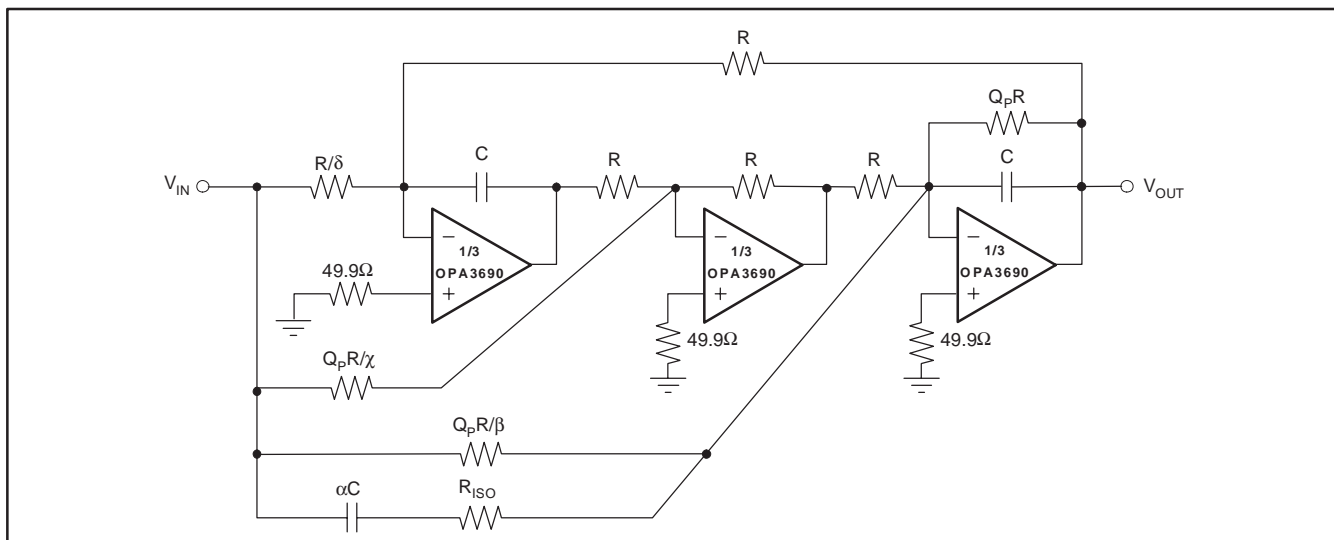
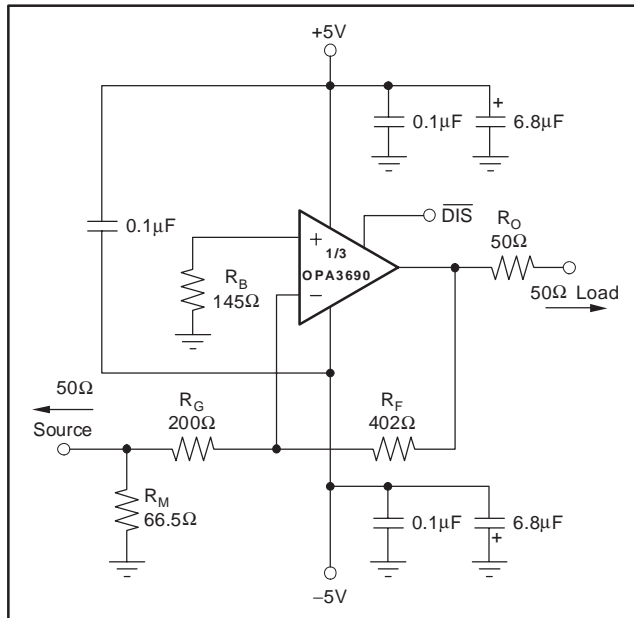

Figure 11. State Variable Filter
Figure 12. Gain of –2 Example Circuit
Figure 11 shows a state variable filter using the OPA3690. This active filter is quite useful for high Q filter responses, and will produce low-pass, high-pass, bandpass, notch, and all-pass functions. The filter response is:
Since the OPA3690 is a general-purpose, wideband, voltage-feedback op amp, all of the familiar op amp application circuits are available to the designer. Inverting operation is one of the more common requirements and offers several performance benefits. Figure 12 shows a typical inverting configuration where the I/O impedances and signal gain from Figure 1 are retained in an inverting circuit configuration.
In the inverting configuration, three key design considerations must be noted. The first is that the gain resistor ( $R_G$ ) becomes part of the signal channel input impedance. If input impedance matching is desired (which is beneficial whenever the signal is coupled through a cable, twisted-pair, long PC board trace, or other transmission line conductor),  $R_G$  may be set equal to the required termination value and  $R_F$  adjusted to give the desired gain. This is the simplest approach and results in optimum bandwidth and noise performance. However, at low inverting gains, the resultant feedback resistor value can present a significant load to the amplifier output. For an inverting gain of  $-2$ , setting  $R_G$  to  $50\Omega$  for input matching eliminates the need for  $R_M$  but requires a  $100\Omega$  feedback resistor. This has the interesting advantage that the noise gain becomes equal to 2 for a  $50\Omega$  source impedance—the same as the noninverting circuits considered in the previous section. The amplifier output, however, will now see the  $100\Omega$  feedback resistor in parallel with the external load. In general, the feedback resistor should be limited to the  $100\Omega$  to  $1.5k\Omega$  range. In this case, it is preferable to increase both the  $R_F$  and  $R_G$  values, see Figure 12, and then achieve the input
The second major consideration, touched on in the previous paragraph, is that the signal source impedance becomes part of the noise gain equation and influences the bandwidth. For the example in Figure 12, the  $R_M$  value combines in parallel with the external  $50\Omega$  source impedance, yielding an effective driving impedance of  $50\Omega \parallel 66.5\Omega = 28.5\Omega$ . This impedance is added in series with  $R_G$  for calculating the noise gain (NG). The resultant NG is 2.76 for Figure 11, as opposed to only 2 if  $R_M$  could be eliminated, as discussed above. The bandwidth will therefore be slightly lower for the gain of  $-2$  circuit of Figure 12 than for the gain of  $+2$  circuit of Figure 1.
The third important consideration in inverting amplifier design is setting the bias current cancellation resistor on the noninverting input ( $R_B$ ). If this resistor is set equal to the total DC resistance looking out of the inverting node, the output DC error, due to the input bias currents, will be reduced to (Input Offset Current)  $\times R_F$ . If the  $50\Omega$  source impedance is DC-coupled in Figure 12, the total resistance to ground on the inverting input will be  $228\Omega$ . Combining this in parallel with the feedback resistor gives the  $R_B = 145\Omega$  used in this example. To reduce the additional high-frequency noise introduced by this resistor, it is sometimes bypassed with a capacitor. As long as  $R_B < 350\Omega$ , the capacitor is not required because the total noise contribution of all other terms will be less than that of the op amp input noise voltage. As a minimum, the OPA3690 requires an  $R_B$  value of  $50\Omega$  to damp out parasitic-induced peaking—a direct short to ground on the noninverting input runs the risk of a very high-frequency instability in the input stage.
The distortion plots show which changes in operation will improve distortion. Increasing the load impedance improves distortion directly. Remember that the total load includes the feedback network; in the noninverting configuration (see Figure 1), this is sum of  $R_F + R_G$ , while in the inverting configuration (see Figure 11), it is just  $R_F$ . Also, providing an additional supply decoupling capacitor (0.1 $\mu F$ ) between the supply pins (for bipolar operation) improves the 2nd-order distortion slightly (3dB to 6dB).
capacitive decoupling across the bias current cancellation resistor ( $R_B$ ) for the inverting op amp configuration of Figure 12 is not required.